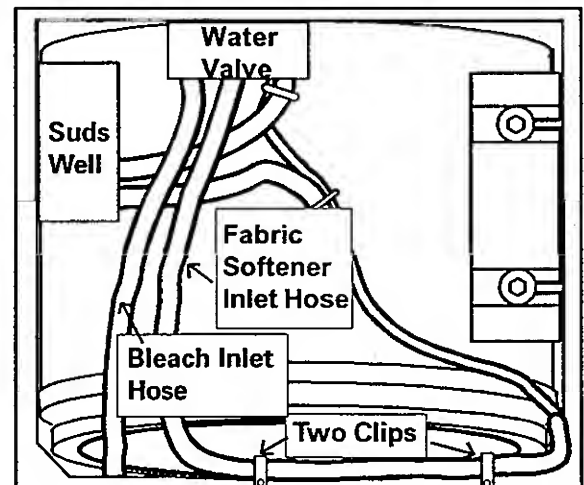

Figure 5-7
7. Reach up between the plastic shroud and the outer tub cover and locate the fabric softener inlet hose positioned into two clips on the front shroud support. Unhook the hose from the clips. Locate the suds well and unhook the hoses from the retaining clips on the well (*Figure 5-7*).